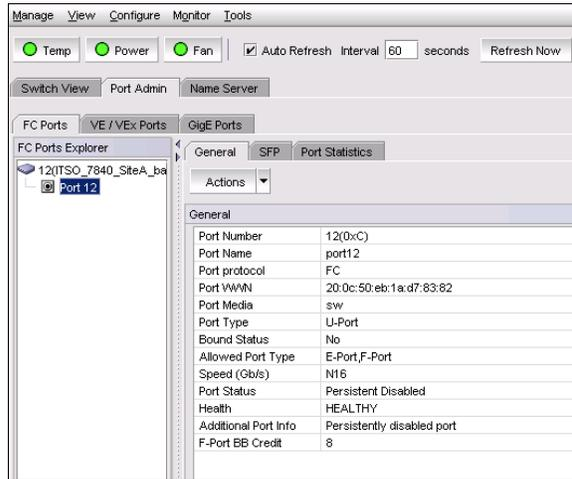

Figure 6-41 Select ports for routing configuration
- a. Select the port to be configured as an EX_Port (Figure 6-41). Here we select port 12.